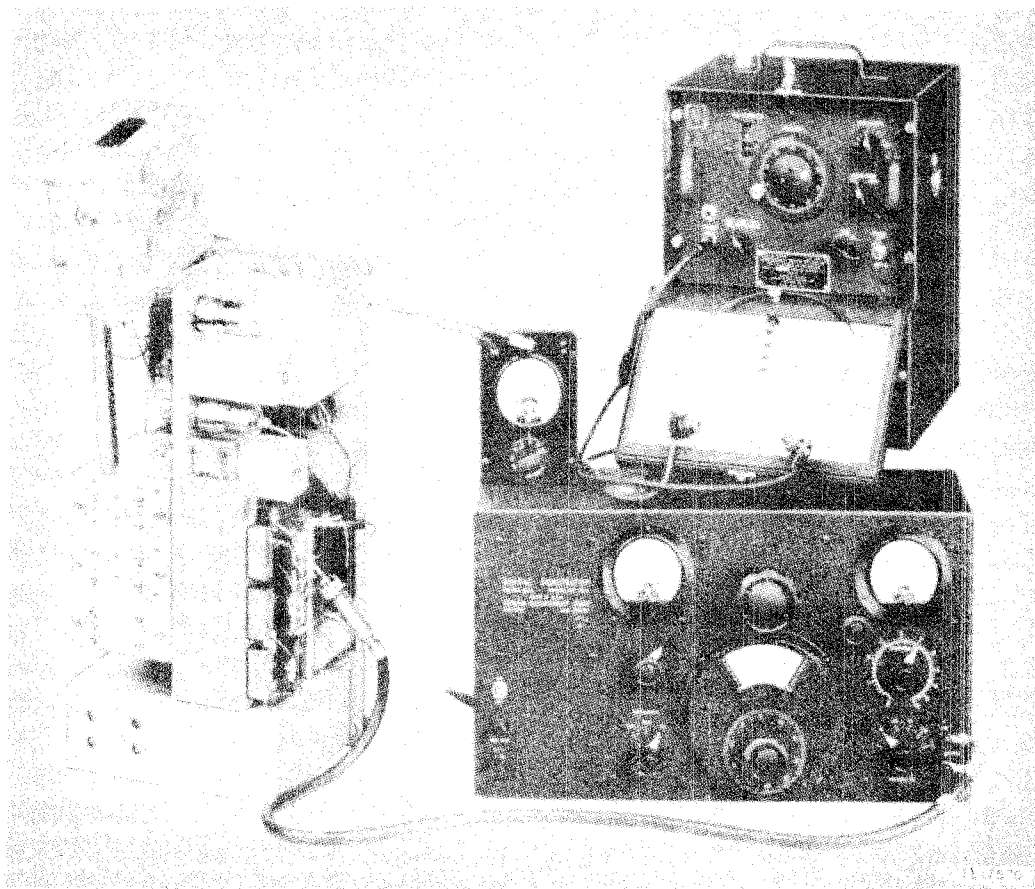
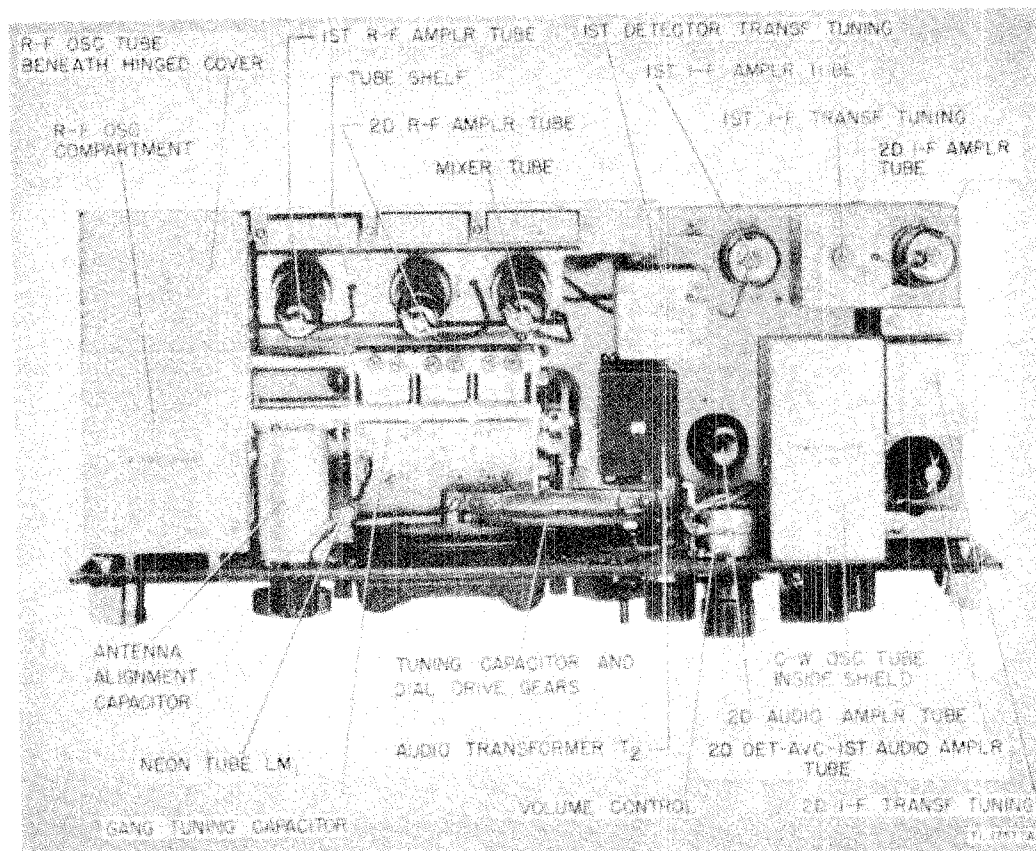

Figure 72. Typical test set up for receiver i-f alignment.
Figure 73. Receiver chassis, top view, showing alignment points.
a. PREPARATION. Set up the receiver and alignment equipment as shown in figure 72. Calibrate the signal generator for a 470-kc signal (h-f receiver models) or for a 92.5-kc signal (m-f receiver models). Remove the two screws from the top of the chassis that hold the dynamotor or rectifier in place. Remove the screw from the dynamotor or rectifier inner mounting hinge and swing the power supply assembly upward, securing it in position with a rack or a block of wood. Set the OFF-M.V.C.-A.V.C. switch to M.V.C., the CRYSTAL PHASING control to OUT (h-f models), the SELECT CONTROL at maximum (m-f models), the C.W.-OSC. switch to OFF, and the VOL control to maximum. Loosen the i-f transformer screw locknuts.
b. PROCEDURE. (1) Attach the signal generator ground lead to the receiver chassis and connect the dummy antenna (300-ohm resistor) between the grid cap of the second i-f amplifier tube and the output lead from the signal generator.
(2) Connect the output meter to the PHONES 2D AUDIO jack and adjust the signal generator output (modulated) to give a small deflection on the output meter, using the smallest scale possible.
(3) Adjust the second i-f transformer adjustment screws located on the top and bottom of the transformer (figs. 73 and 74) for a maximum output indication. Reduce the signal generator output whenever necessary during alignment to avoid overloading the receiver.
a. PREPARATION. Set up the receiver and alignment equipment as shown in figure 72. Remove the two screws from the top of the chassis that hold the dynamotor or rectifier in place. Remove the screw from the dynamotor or rectifier inner mounting hinge and swing the power supply assembly upward, securing it in position with a rack or a block of wood. Set the OFF-M.V.C.-A.V.C. switch to M.V.C., the SELECT CONTROL to maximum, the C.W.-OSC. switch to OFF, and the VOL control to maximum. Loosen the i-f transformer screw locknuts.
b. PROCEDURE. (1) Turn on the signal generator and the frequency meter and allow at least 15 minutes for them to warm up to insure frequency stability.
(2) Set the receiver tuning dial to any frequency on any band. For example: 200 kc.
(3) Plug the headset into the frequency meter and insert the end of a lead from the antenna post on the frequency meter into the receiver oscillator compartment (open hinged cover). Lay
(4) Tune the frequency meter to 92.5 kc above the frequency at which the receiver dial is set ($200 + 92.5$ or 292.5 kc if receiver is set at 200 kc). Then slowly tune the frequency meter dial back and forth, about 15 kc, until zero beat is heard in the headset.
(5) When zero beat is heard, check the frequency at which the frequency meter is set. If the frequency is not 92.5 kc above the frequency at which the receiver dial is set, adjust the receiver oscillator trimmer in small steps until a zero beat is heard in the frequency meter headset at *exactly* 92.5 kc above the receiver dial setting.
(6) When the r-f oscillator trimmer is finally adjusted to the desired frequency, tighten the locknut on this adjustment so that it cannot change. Disconnect the frequency meter but do not change the receiver dial setting.
(7) Calibrate the signal generator for the frequency at which the receiver dial is set (par. 83) and connect the output of the generator to the receiver antenna binding post through a 250- $\mu\mu\text{f}$ capacitor dummy antenna. Connect the output meter to the PHONES 2D AUDIO jack.
(8) With the signal generator frequency set in accordance with instructions in (7) above, and with the generator output 30-percent modulated at 400 cycles, adjust each i-f adjustment screw to obtain a maximum output indication on the output meter. Adjust the second i-f transformer first, then the first i-f transformer, and finally the mixer transformer. Repeat adjustments if necessary to obtain a maximum output indication.
(9) With the r-f oscillator and i-f stages adjusted properly, the r-f amplifier stages should be aligned as described in paragraph 88 below.
a. PREPARATION. Set up the equipment as for the i-f alignment (fig. 72). Calibrate the signal generator for a 470-kc signal (h-f model) or for a 92.5-kc signal (m-f model). If a signal generator capable of producing a 92.5-kc signal is not available, proceed as outlined in paragraph 85 above to obtain the required intermediate frequency. Set the OFF-M.V.C.-A.V.C. switch to M.V.C. or A.V.C., and the C.W.-OSC. switch to ON. Turn the C.W.-OSC. ADJUST control so that the arrow is horizontal, pointing toward the right. Remove the capscrew above the C.W.-OSC. switch, permitting access to the c-w oscillator adjustment screw. Plug a headset or loudspeaker into the receiver output jack.
b. PROCEDURE. (1) Attach the signal generator ground lead to
a. PREPARATION. Set up the equipment the same as for the i-f stage alignment. (See fig. 72.) Calibrate the signal generator for a 470-kc signal. Set the OFF-M.V.C.-A.V.C. switch to M.V.C. and the C.W.-OSC. switch to ON. Connect a headset or loudspeaker and an output meter to the receiver output.
b. PROCEDURE. (1) Attach the ground lead of the signal generator to the receiver chassis and connect the signal generator